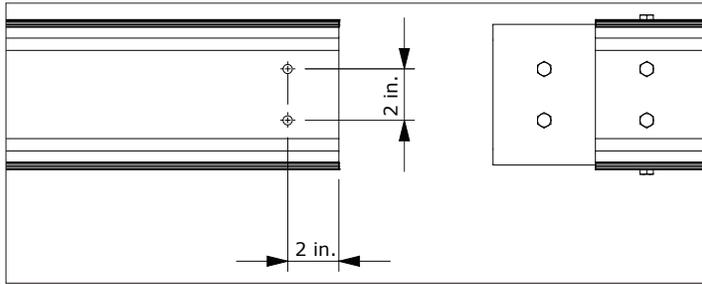

Fig. 4.4.1 Measuring the holes for splicing the rail (top of the rail).
- Insert and center a splice plate 4 in. (100 mm) inside the rail, clamp in place with a C-Grip and drill 2 Ø 0.42 in. holes on top of the rail, 2 in. (50 mm) from the top and bottom of the rail (refer to fig. 4.4.1.) that are 2 in. (50 mm) apart.